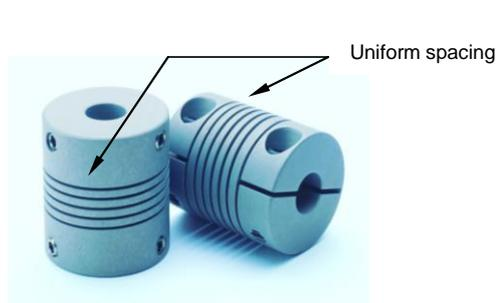

Fig. 8.1: Beam spacing
The coupling must be mounted tension-free, i.e. without compression, tensile or torsional stress. The compressed or tensioned state can be identified by the uniform spacing of the individual beams (see Figure 8.1). The distances must be uniform over the entire beam.
- The beams must not touch each other (see Fig. 8.1).